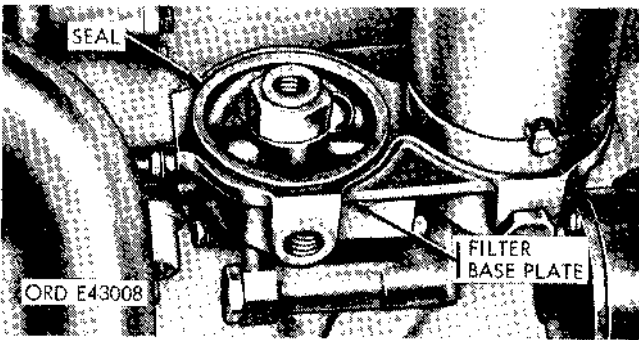

Figure 2-56. Filter housing base.
(1) Unscrew the center bolt securing the filter housing to the base. (The bolt and housing are removed as an assembly.)
(2) Remove and discard the filter element, housing gasket, and bolt gaskets (2).
(3) Clean the filter housing, center bolt, and seal seat using drycleaning solvent or mineral spirits paint thinner.
(4) Position a new gasket on the base (fig. 2-56).